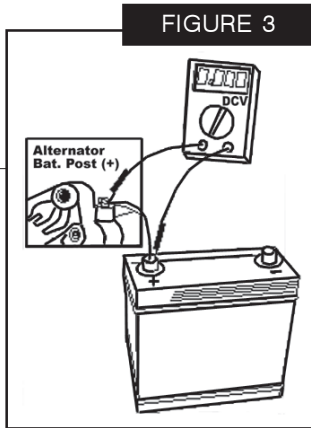

FIGURE 3
- ◆ Using the voltmeter, measure the voltage drop between the battery positive post (+) and the alternator output post (See figure 3). Voltage should be less than 0.40VDC. If voltage is higher than 0.40VDC, check for poor connections between the alternator and the battery. Possible causes are undersized battery cables, loose or improperly crimped terminals, and corroded connections.